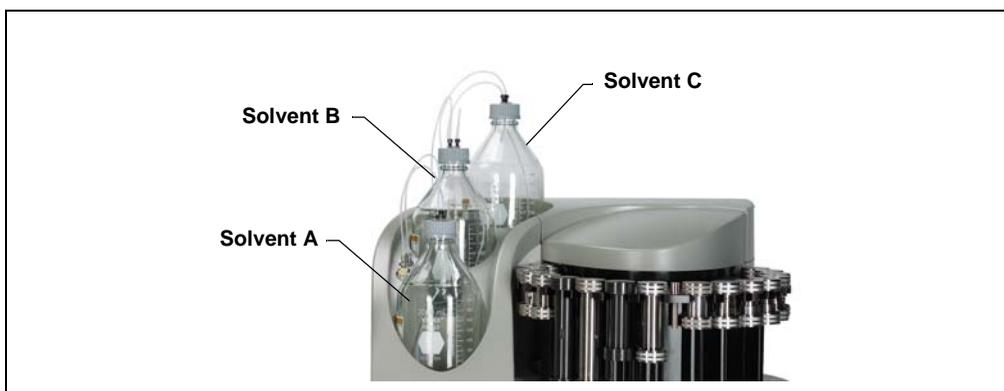

Figure B-9. Location of Solvent Reservoirs
4. Set the reservoir in the recess reserved for solvent A in the solvent reservoir tray (see Figure B-9).
6. Follow the steps above to install additional reservoirs. Install the reservoirs in the locations indicated in Figure B-9. When proportioning solvents, the method will be programmed according to these positions.